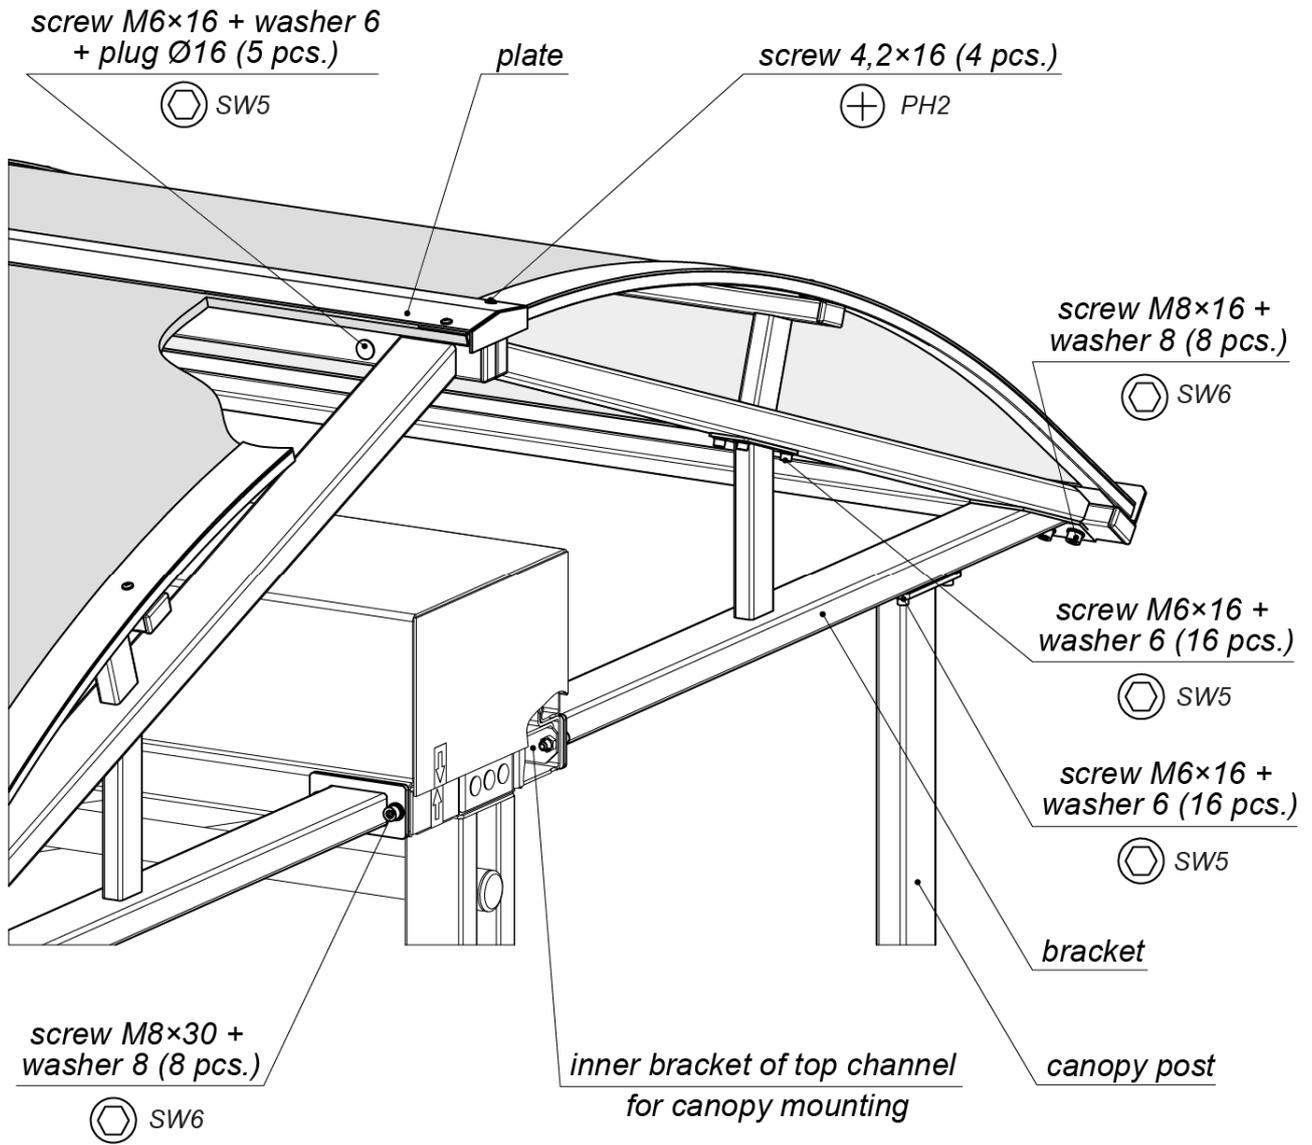

Figure 4. Juncture of the canopy to the turnstile top channel
7. Lift the bracket to the upper horizontal platform of the post, aligning the mounting holes and holes in the posts and orienting the flange of the bracket on the side surface of the turnstile top channel. Fix the bracket with bolts M6 × 16 on each post, wrench SW5 (see Figure 4).
8. Fix the bracket with two M8×30 bolts to the turnstile top channel, wrench SW6 (see Figure 4). Tightening of bolts is preliminary. The joint of the flange and the top channel of the turnstile must be sealed with silicone before tightening the bolts.
10. Carry out the installation of the half-frame of the canopy on one side of the RTD-16 turnstile, fixing it with M6×16 bolts - 8 pcs. (wrench SW5) and M8×16 - 4 pcs. (wrench SW6) on the installed brackets (see Figure 4).